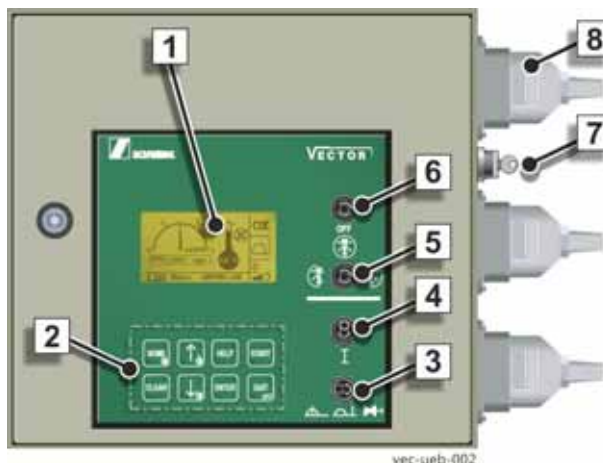

Fig. 49
In order to drive the machine using the local control unit, the plug must always be attached to the transmitter or to the cable remote control on the switch cabinet. See example (8) (Fig. 49).